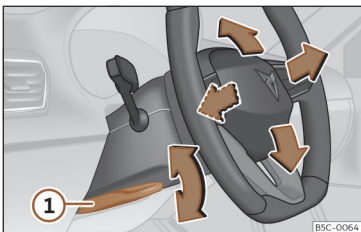

Fig. 78 Lever in the lower left side of the steering column.
- Pull lever >>> **Fig. 78 1** down, move the steering wheel to the desired position and lift the lever back up until it locks.
- After adjusting the steering column, push lever >>> **Fig. 78 1** firmly upwards so that the steering wheel does not accidentally change position while driving.